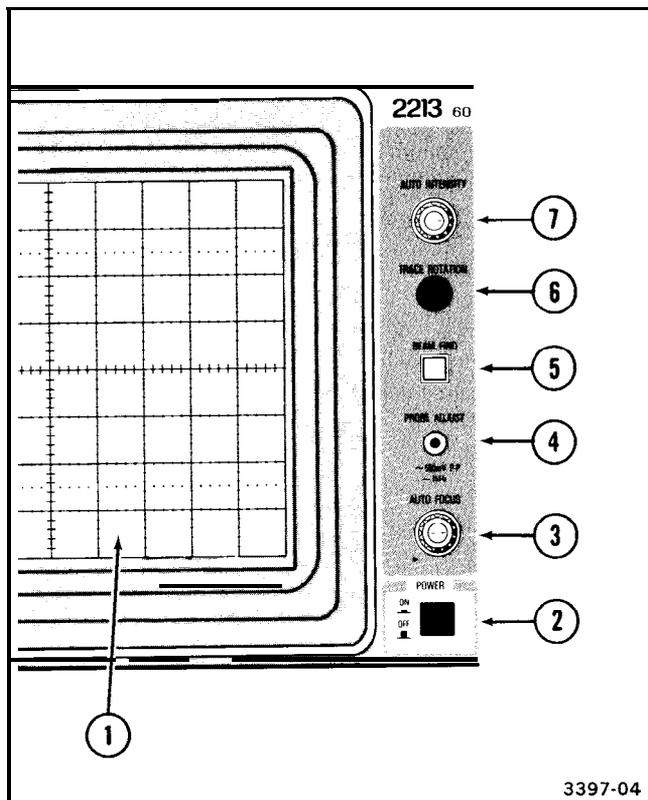

Figure 3. Power, display, and probe adjust controls, connector, and indicator.
Refer to Figure 3 for location of items 1 through 7.
- ① **Internal Graticule**-Eliminates parallax viewing error between the trace and graticule lines. Rise-time amplitude and measurement points are indicated at the left edge of the graticule.
- ② **POWER Switch**-Turns instrument power on and off. Press in for ON; press again for OFF.
- ③ **AUTO FOCUS Control**-Adjusts display for optimum definition. Once set, the focus of the crt display will